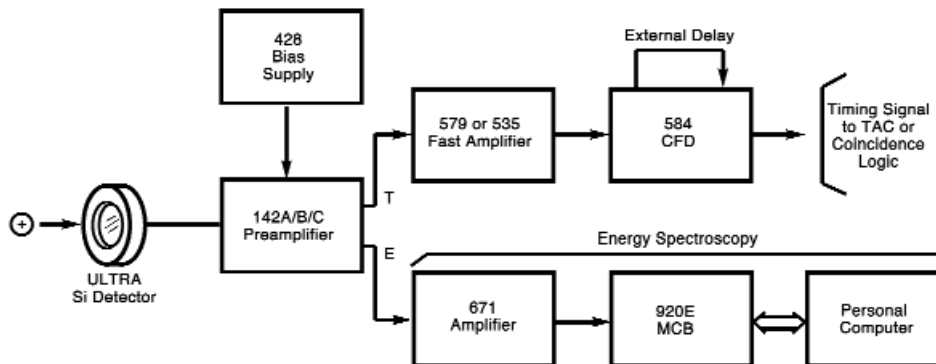

Fig. 7. Pulse-Height (Energy) Spectrometry with a Si Charged-Particle Detector, Including Derivation of an Optional Timing Signal.
- Silicon charged-particle detector (Fig. 7).